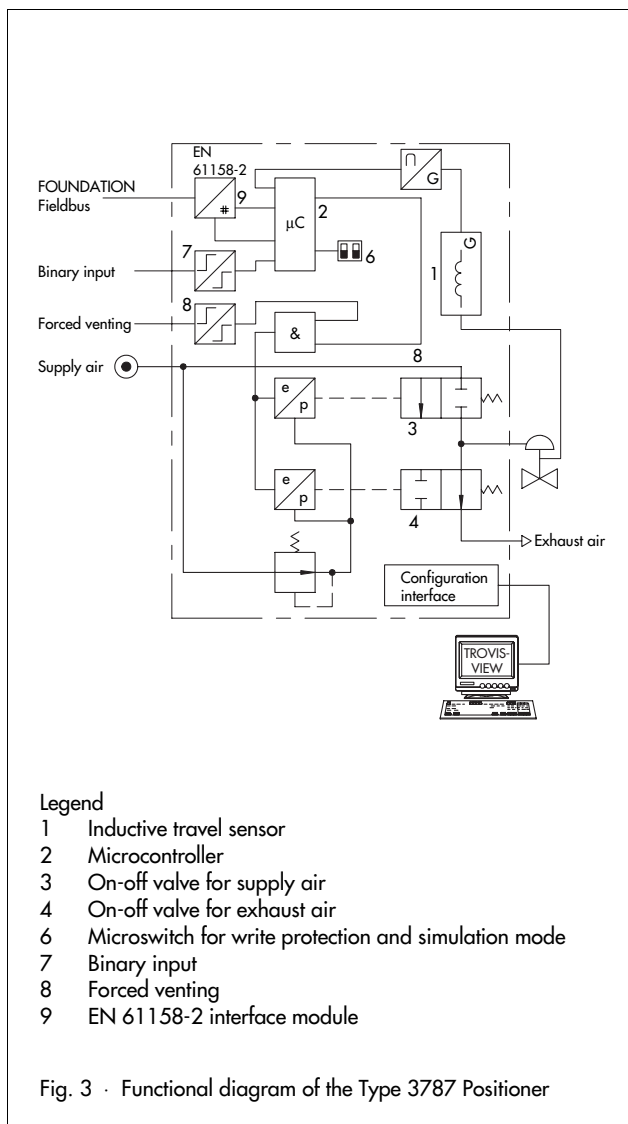

Fig. 3 · Functional diagram of the Type 3787 Positioner
- Forced fail-safe venting action · Upon absence of an external signal, the 2/2-way on-off valve (4 in Fig. 3) causes the air to be vented. Consequently, the control valve is forced to move to fail-safe position.